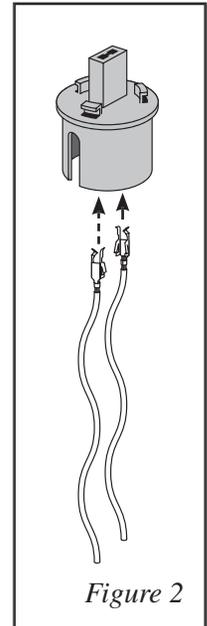

Figure 2
2. Install wires into the light bulb socket by simply pressing a brass connector into each side of the socket until it snaps into place. See *Figure 2*.